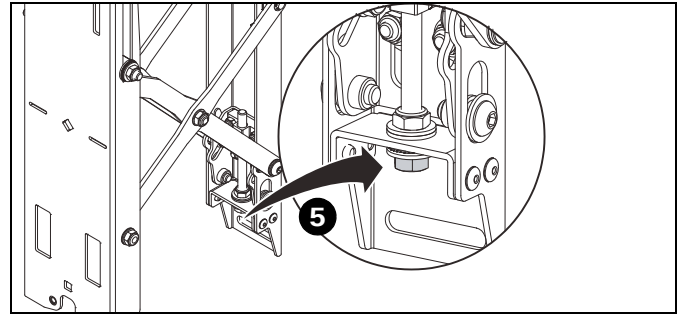

Figure 6
5. Adjust plumb of mount by turning the adjustment nut on the FCAV1U. (See Figure 6)